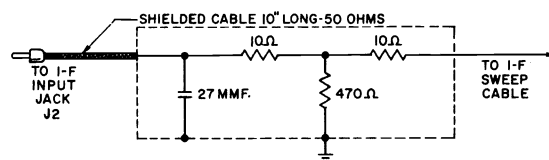

Figure 8—Tuner I-F Input Head
- SWEEP GENERATOR** Connect to I-F input jack J2 using the input head shown in Figure 8.